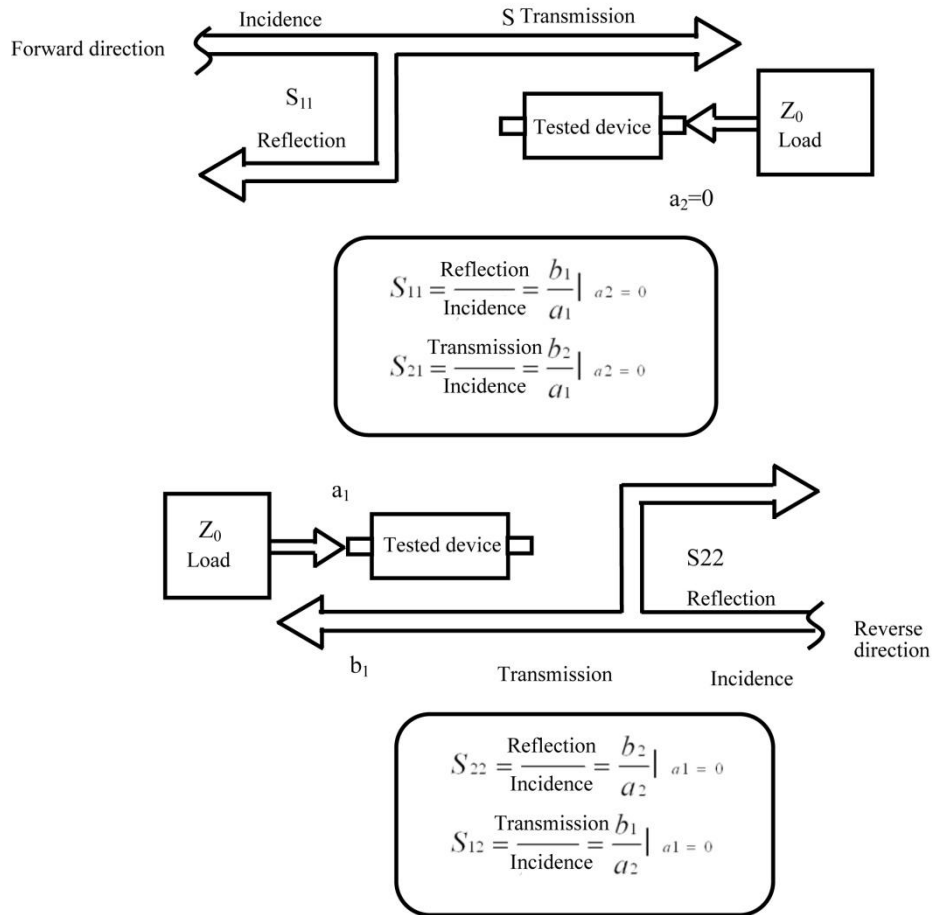

Fig. 4.3 Definition of Parameter S
In this case, the four parameters (S) of the double-port device are respectively S11, S12, S21 and S22. Fig. 4.3 further shows the parameter S, where: